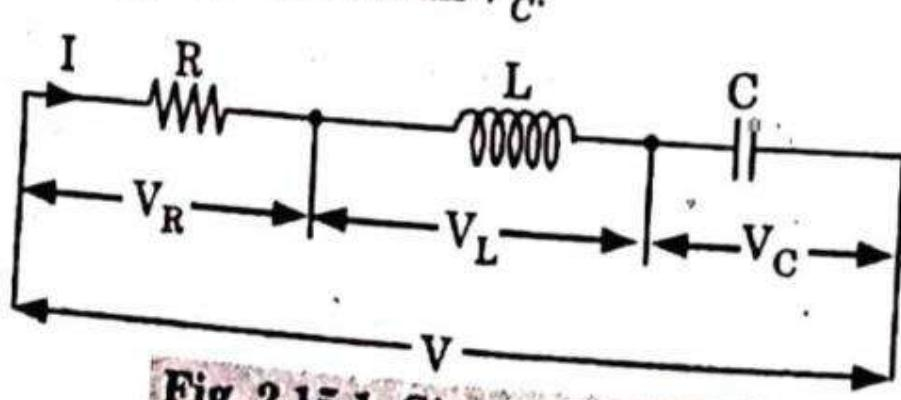

Fig. 2.15.1. Circuit Diagram.
- Consider an AC circuit containing resistance of R ohms, inductance of L H and capacitance of C F connected in series, as shown in Fig. 2.15.1.